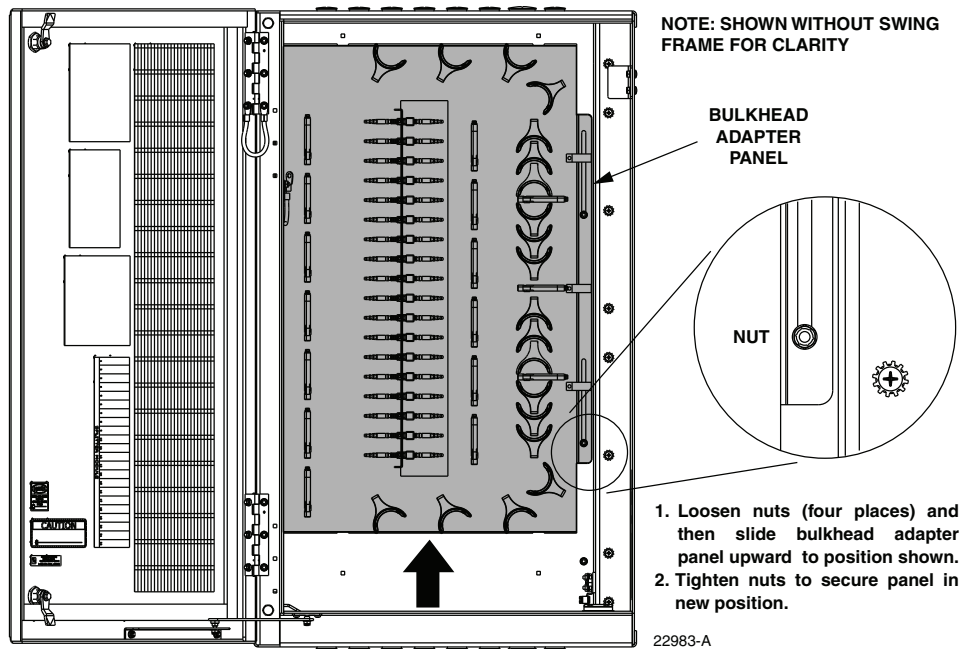

Figure 30. Reposition Bulkhead Adapter Panel
9. Loosen the four nuts that secure the bulkhead adapter panel to the back of the cabinet as shown in Figure 30.